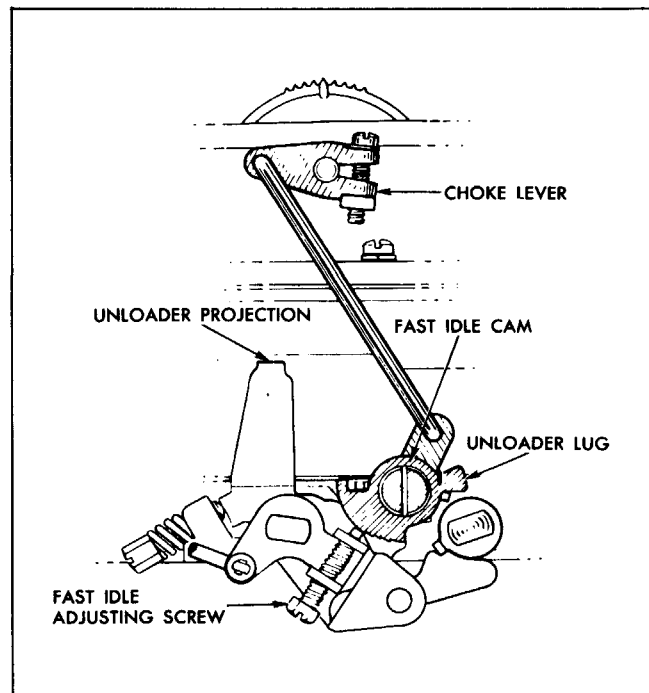

Fig. 6B-47 Choke Linkage
During the warm-up period it is necessary to provide a fast idle speed to prevent engine stalling. This is accomplished by a fast idle cam which is rotated by a connector rod attached to the choke shaft (Fig. 6B-47). The fast idle cam prevents the primary throttle valves from returning to a normal warm engine idle position while the Climatic (R) control is in operation.